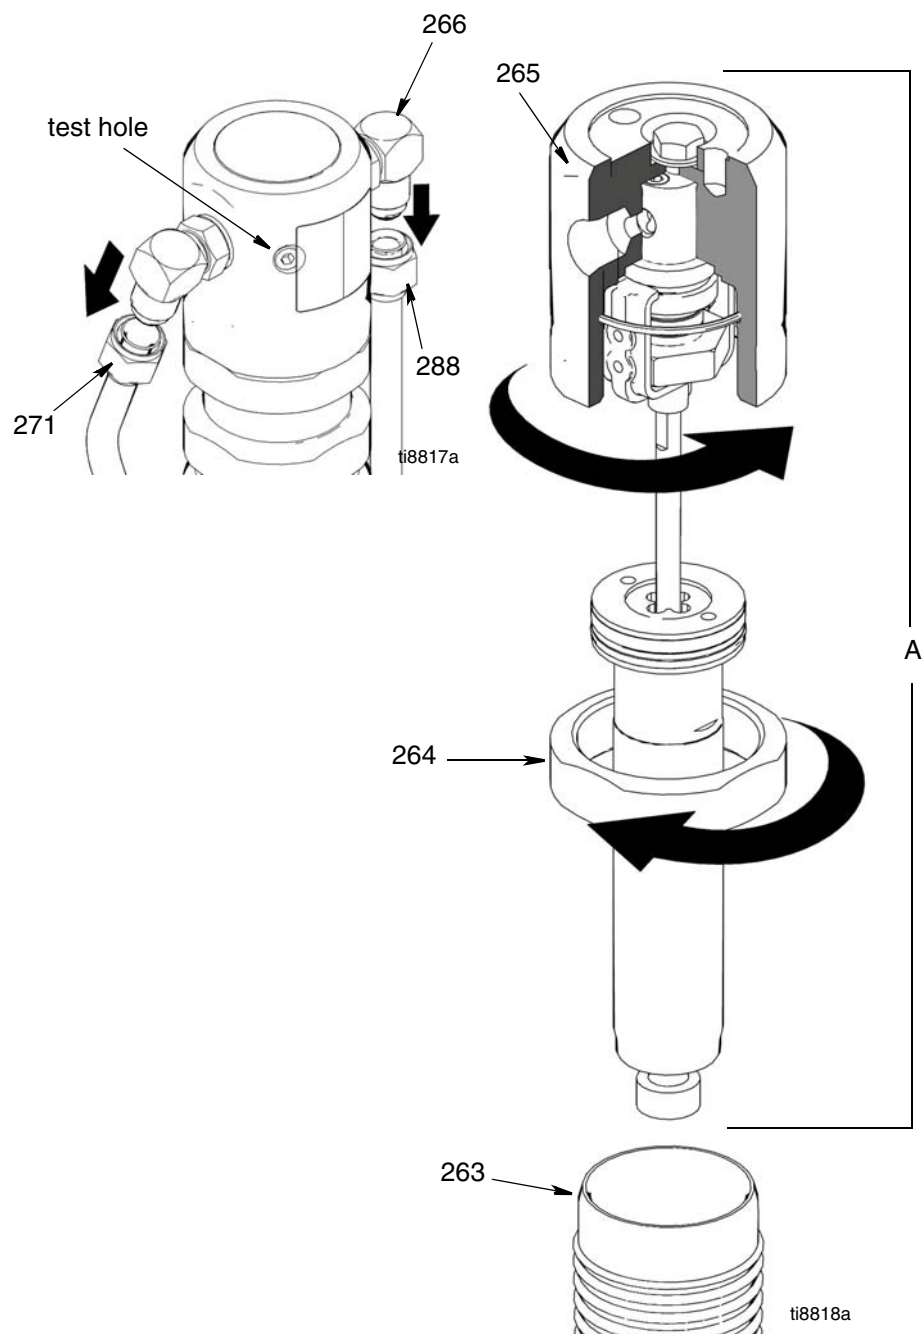

FIG. 5
(Figure 5)
- 1 Slide piston rod assembly into hydraulic motor cylinder (263).
- 2 Screw down hydraulic motor cap (265). Unscrew hydraulic motor cap until inlet and outlet align with hydraulic line fittings and test hole in hydraulic motor cap points toward belt guard (117).
- 3 Torque jam nut (264) against hydraulic motor cap (265) to 150 ft-lb (17 N•m).
- 4 Fig. 5. Install hydraulic lines (271, 288) to fittings (266) to top left and right side of hydraulic motor; torque to 40 ft-lb (54.2 N•m).